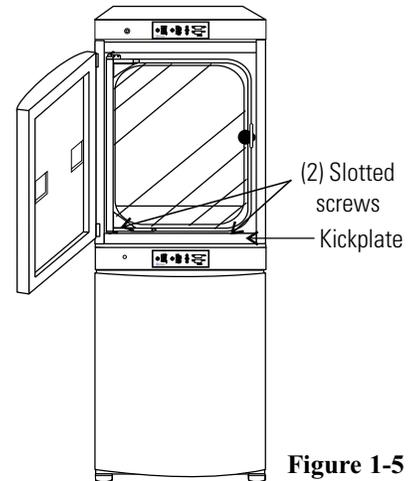

Figure 1-5
2. Remove the kickplate from below the door on the top incubator (Figure 1-5). Two Phillips screws secure the plate. Note the notches at the base of the incubator frame.